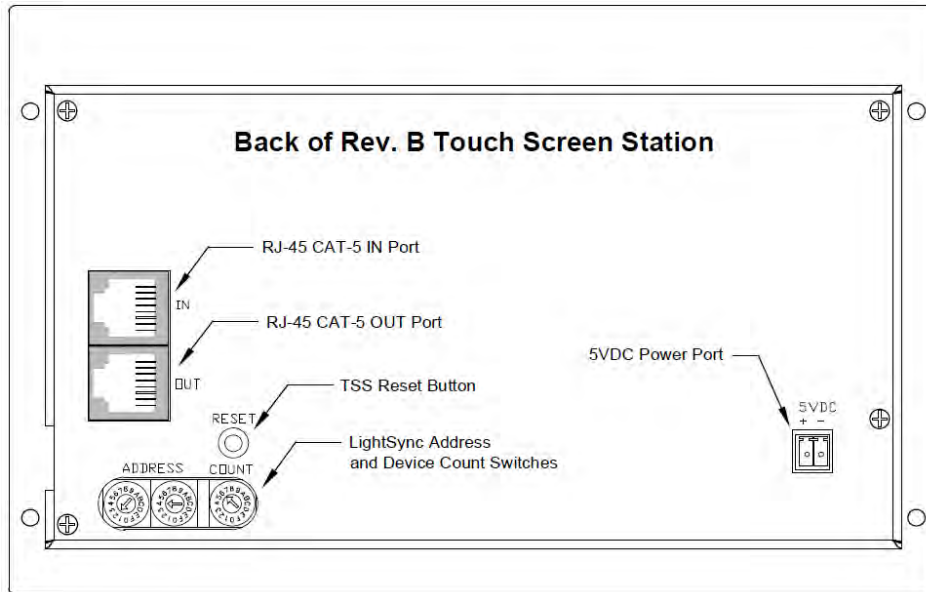

Figure 11 Back of Rev. B Touch Screen Showing Address and Device Count Switches
1. Set the “Base” address with the 2 rotary switches on the back of the LightSync Touch Screen. See figure 11 and 15. Note: This will be the same as programmed in the “Device Options” for “LightSync Node Address: 10”.
Rev B Touch screens will require compiling and writing the control data to the SD card only. This model TSS has the controller interface integrated into the display screen, all connections are on the back of the touch screen as shown in Figure 11